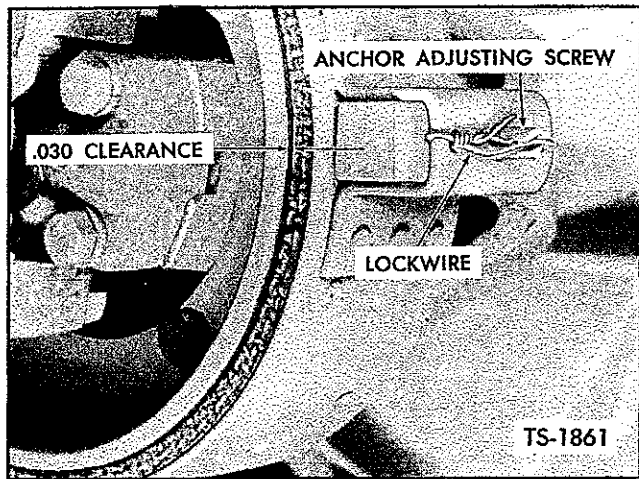

Fig. 27. Adjust Parking Brake Anchor
Further adjustment is provided at the brake assembly as shown in Figures 27 and 28. First be sure that acorn on lever is backed off, so that all slack can be taken up at the brake assembly. Brake lever should be in released position.
2. Clip lockwire and turn anchor adjusting screw to produce .030 clearance between lining and drum as shown in Figure 27. Relockwire screw.